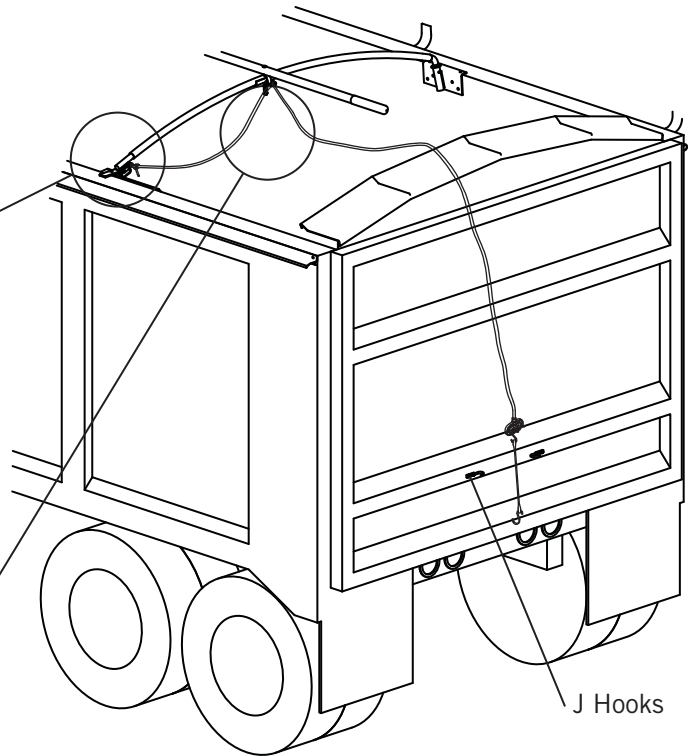

**Figure 25**
- 2) See Figures 25 & 26. Insert rope through the quick link and tie rope securely to the bow rest with latch.